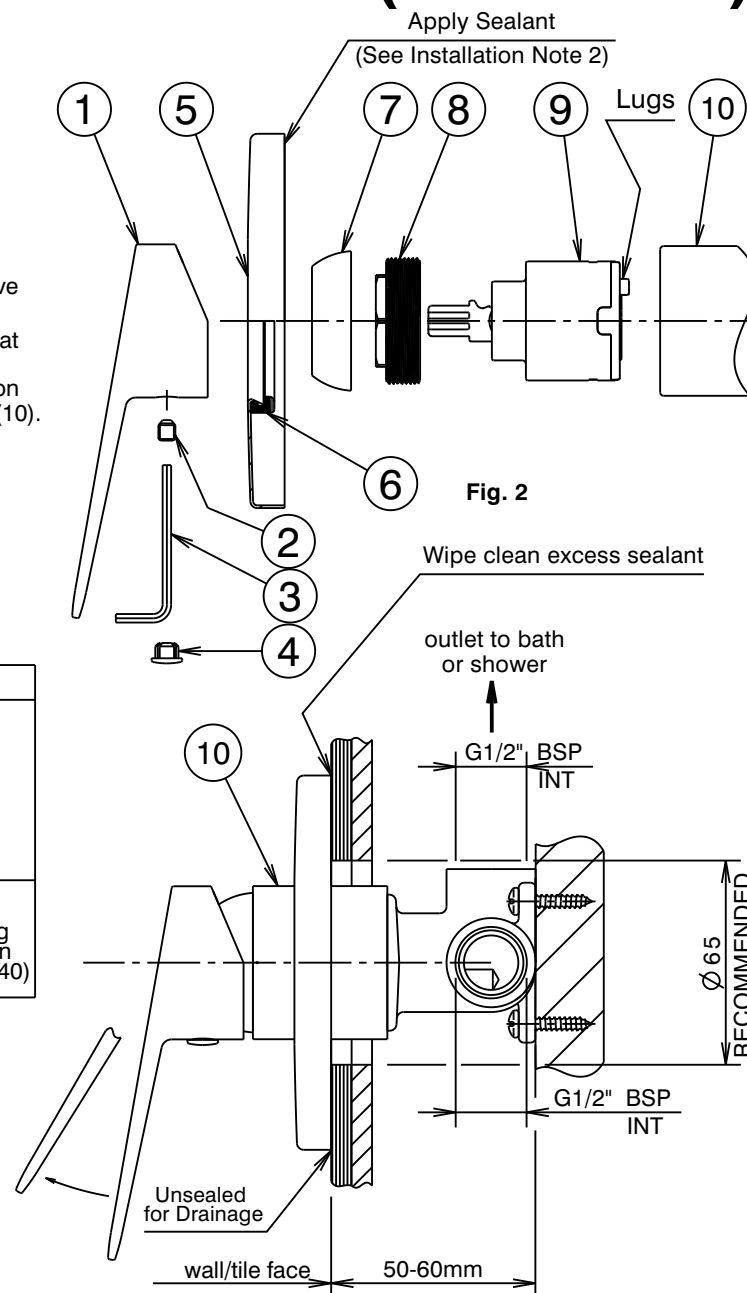

Fig. 1
Installation (Fig. 1 & 2)
- * Mixer body (10) must be installed square to wall/tile face, to ensure cover plate (5) sits flush.
- 2) Apply a suitable clear sealant to the back edge of the cover plate (5), leaving an unsealed section at the bottom for drainage (See Fig. 1). Carefully slide the cover plate (5) together with seal (6) onto the mixer body (10), push firmly against the cover plate (5) until it contacts the wall/tile face & the sealant has formed a waterproof joint. Wipe clean any excess sealant from the surfaces & the wall/tile face (See Fig. 1).
- 3) Fit handle (1) as shown, taking care that it is pushed fully onto cartridge stem, then tighten grub screw (2) using 2.5mm allen key (3). Fit handle plug (4).